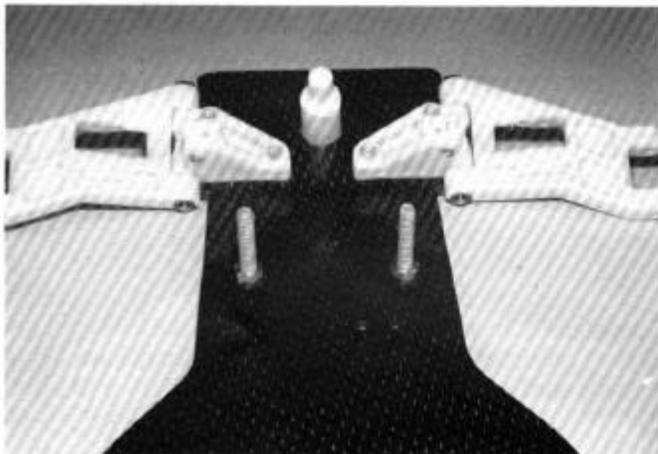

FIG. 8
□ **FIG. 8**—From Bag #6-2 push up the two long 8-32 screws and lock with the two nuts as shown.
FIG. 25—Place the servo saver parts on the two screws you installed in Fig. 8. Take the two nylon nuts and screw them down until the servo saver starts to tighten, then back the nuts off about 1/2 turn until the servo saver arms pivot freely.